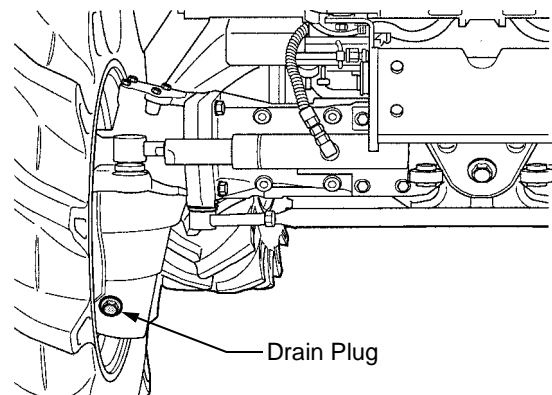

Figure 62
- Place a suitable container below the drain plugs, then remove the plugs from the center of the front axle and the final drives inside both wheels. See Figure 62